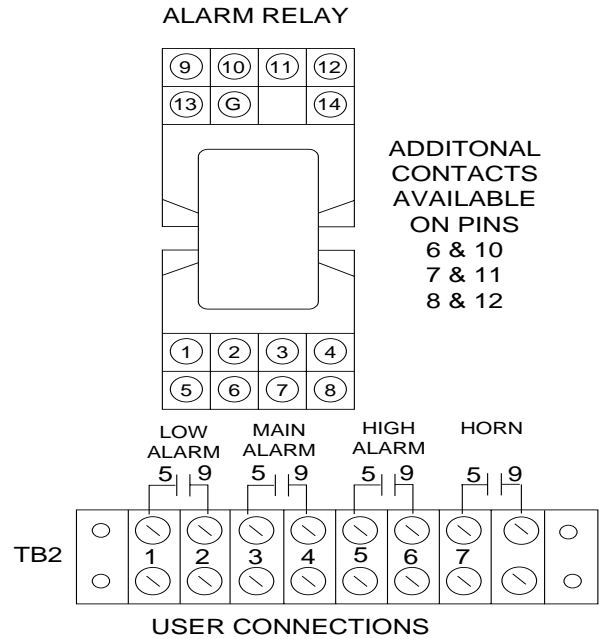

Fig. 3
Warning lights, horns or other devices are actuated using the Alarm relay contacts on TB2 as shown (Fig. 3). Use an auxiliary contactor for heavy loads such as exhaust fans. **Note: Alarm contacts are rated (5) amps/240 VAC maximum.** (Refer to the system wiring diagram for a schematic of the alarm relays.)